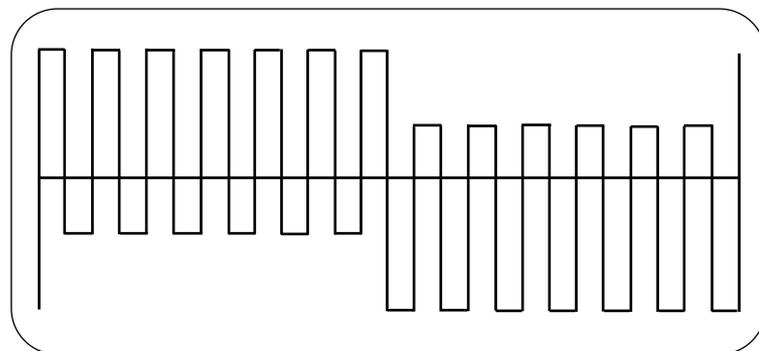

Fig. 3
- 15 • With reference to fig. 1, loosen the two 3 mm allen screws **A** securing the focus step motor to the sensor and adjust the step motor until the maximum focus is shown on the oscilloscope, (fig. 3). (Be careful not to let the sensor hit the drum).